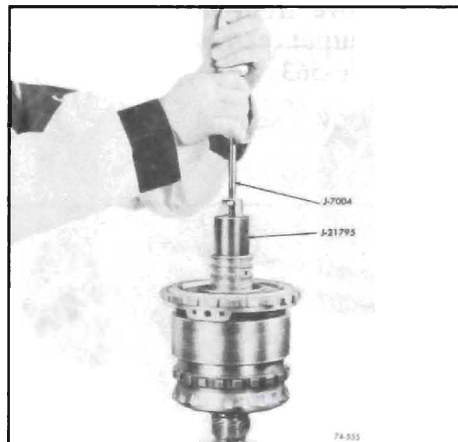

Figure 76-555
18. Place gear unit assembly with output shaft facing down in hole in work bench. See Figure 76-555.
20. Place gear unit assembly with output shaft facing down in hole in work bench. See Figure 76-555.